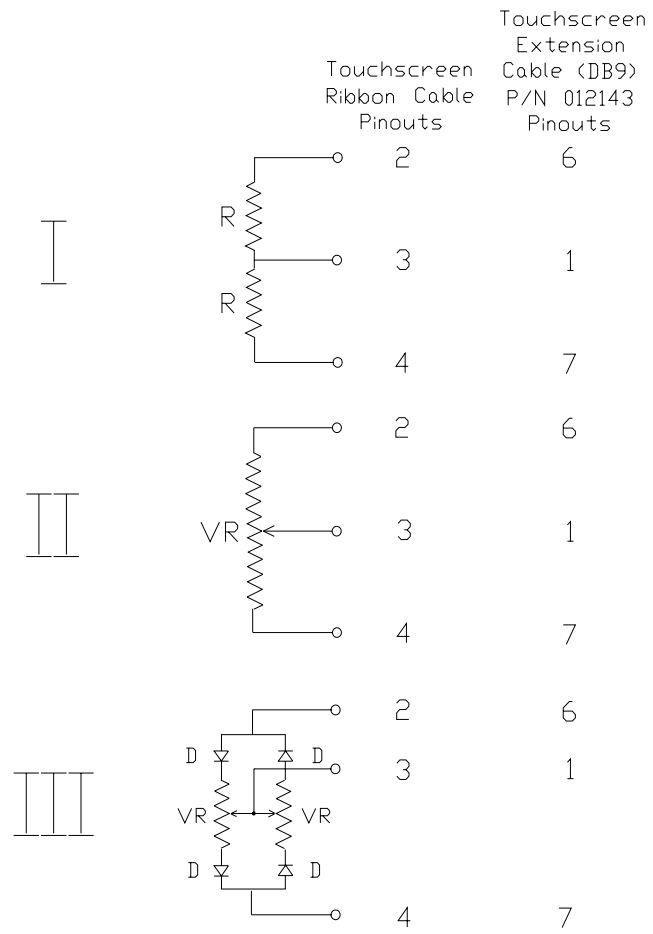

Figure A.1 AccuTouch Touchscreen Simulation Circuits
The simplest dummy touchscreen is the “paper clip test” described on page A-64. Another simple dummy touchscreen is shown in Part I of Figure A.1 on page A-68. This circuit will produce the action of a constant touch in the middle of a real touchscreen. The coordinates that the controller outputs will be about 2000,2000 when using ELODEV uncalibrated and the TOUCHES diagnostic utility. This circuit can also be modified by adding a switch between the junction of the resistors and the input to pin 3, and can then emulate a touch by closing the switch. Acceptable resistor values (R) are from 100-500 ohms, 1/4 watt or greater.
If a potentiometer is substituted for the two resistors in Part I of Figure A-1, the dummy touchscreen in Part II results. It simulates a touchscreen with touches moving from the upper left to the lower right as the pot is turned. Typical values would be 0-20, 4092-4095 at one extreme and 4092-4095, 0-20 at the other extreme. Potentiometer values (VR) from 100-1000 ohms are acceptable.